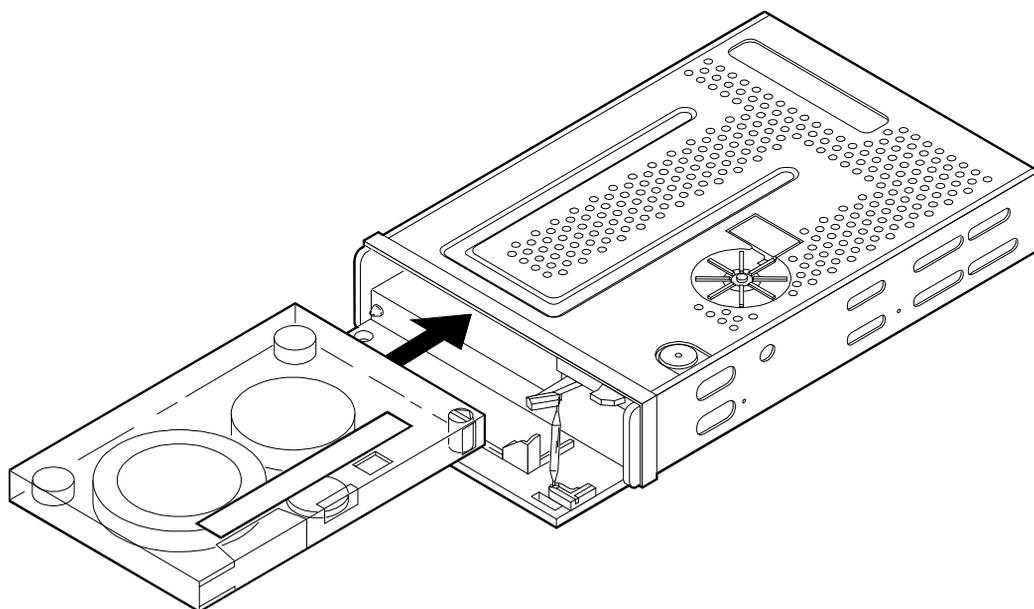

Figure 3-3. Tape Insertion with a Tape Drive
- b. Insert the tape (Figure 3-3).